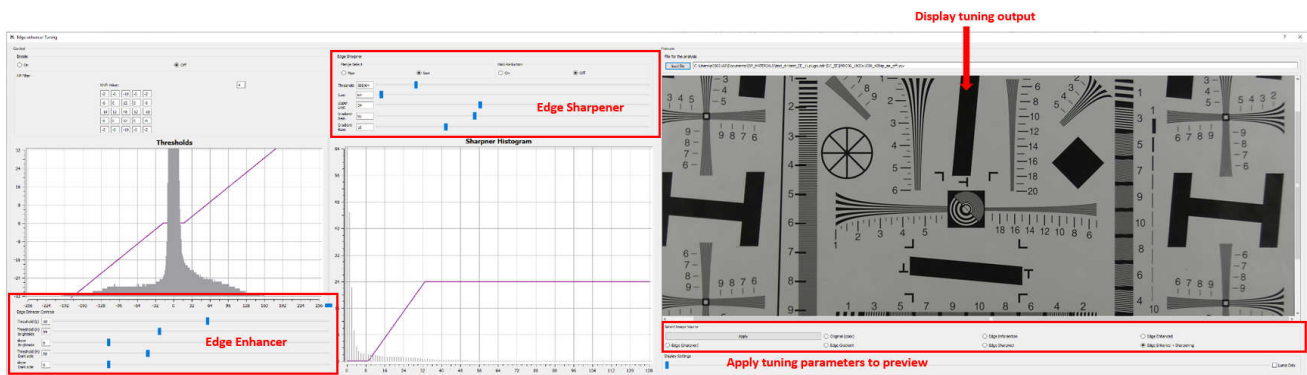

Figure 8-1. EE Semi-Automatic Tuning GUI
- Process the plug-in to switch to the EE tuning GUI. Figure 8-1 shows the EE tuning GUI and details of each control